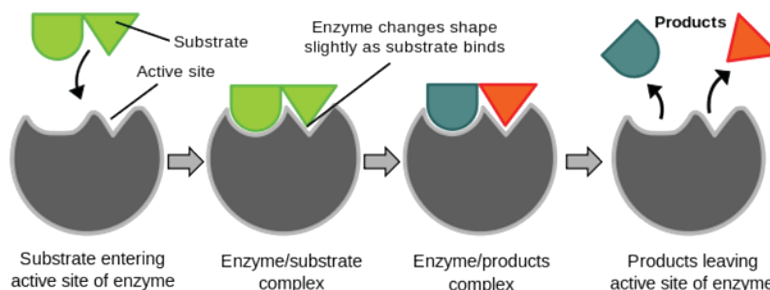

Figure 1: Induced fit mechanism of enzyme action
chemical bonds, forming an **enzyme-substrate (ES)** complex that exists for a fraction of a second. During this time, subtle changes in the shape of the active site, called **induced fit**, stress and orient covalent bonds of the substrates in a way that facilitates the formation of product(s) (Figure 1). The newly-formed product then leaves the active site, whereas the enzyme remains unchanged and can bind to additional substrate molecules, if they are available.